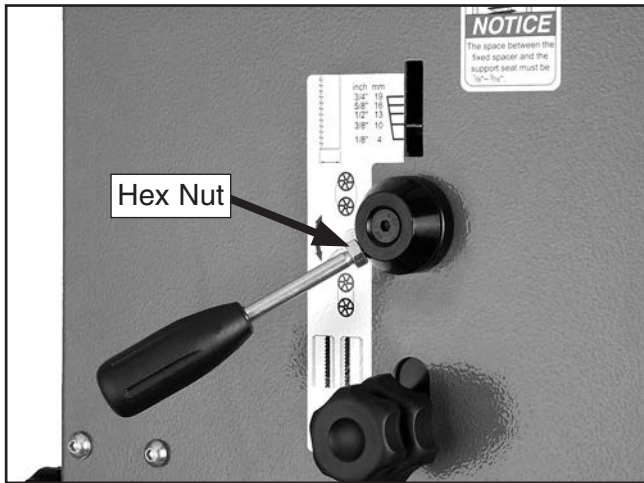

Figure 12. Quick release lever installed.
7. Thread an M8-1.25 hex nut all the way onto the quick release lever, as shown in **Figure 12**, then thread the lever into the quick release hub and tighten the hex nut against the hub to lock the lever in place.